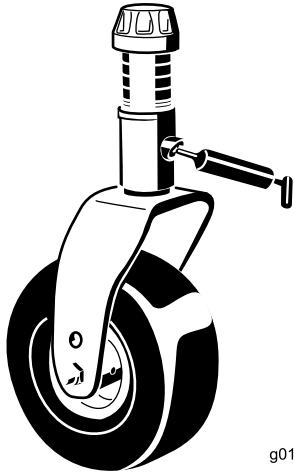

Figure 44
- 1 caster-fork-shaft bushing (Figure 44)